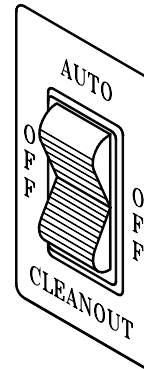
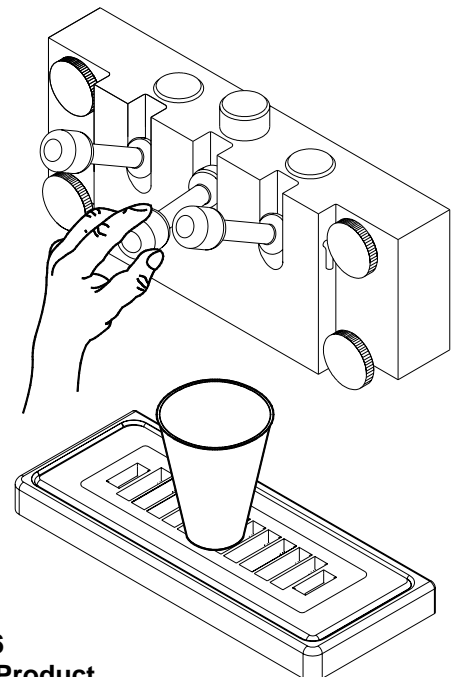

Fig. 2
Fig. 6
3. Level the unit by turning the bottom part of each leg clockwise or counterclockwise (Fig. 2). The machine **MUST** be level to operate properly.
2. Set each control switch (Fig. 2) to the “**CLEANOUT**” position momentarily to verify the direction of rotation of the dasher. It should rotate counter-clockwise.
2. Set each control switch (Fig. 2) to the “CLEANOUT” position and dispense all product from the freezing cylinder by pulling downward on the spigot handle (Fig. 6) to empty the machine.
4. Set each control switch (Fig. 2) to the “**CLEANOUT**” position and agitate for approximately 1 - 2 minutes and then drain the water by opening the spigots (Fig. 6). After the unit is empty, set the control switches to the “**OFF**” position.